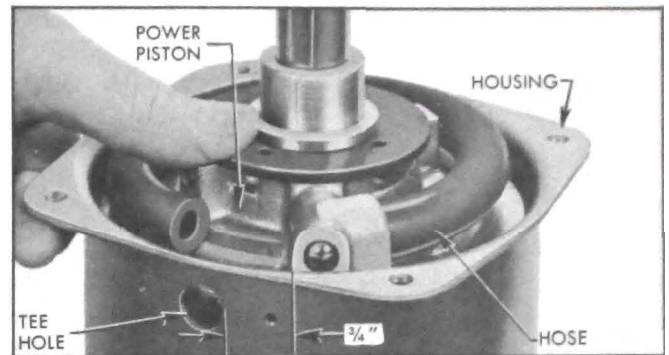

Figure 9-26—Position of Piston in Housing
19. Remove cardboard retainer ring and place power piston with attached parts on the large return spring so that the bent end of spring wire rests between two of the round bosses on piston guide. Locate the piston so that when it is pressed into housing the side of boss opposite the vacuum hose clears the vacuum tee hole in housing by approximately $\frac{3}{4}$ ". See figure 9-26.